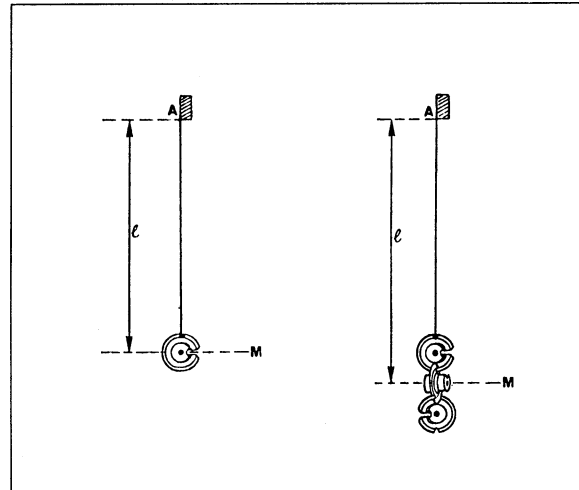

Fig. 2 Measuring the length of the pendulum l
What was the length used to represent $F_0 = 1 \text{ N}$ in the illustration in fig. 2?
13. If you mark off forces along the x-axis (fig. 2), what force is needed for a deflection of $x = 10 \text{ cm}$?
The pendulum's length l is the distance between the point A from which the cord is suspended and the centre of mass M (centre of gravity) of the pendulum's bob (weight) ► Fig. 2.
11. Choose a pendulum length $l = 45$ cm, as shown in fig. 2 on the right.
15. Measure out a new length $l = 45$ cm, as shown in fig. 2 on the left.
18. Set a pendulum length of $l = 10$ cm ► Fig. 2, left